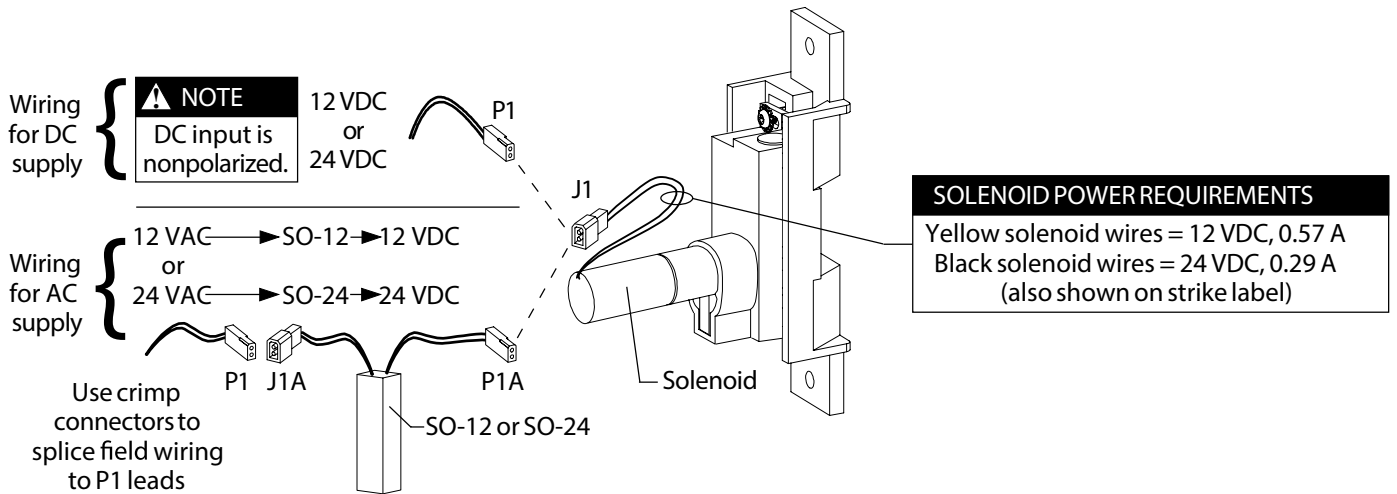
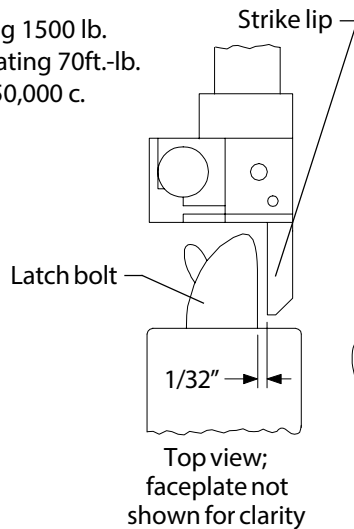

Figure 1
Figure 2
3. Wire strike (Figure 1).
4. Test strike: Apply solenoid power. Fail secure (FSE) lip unlocks. Fail safe (FS) lip locks.
5. Install strike with two #12-24 screws. Make sure clearance between latch bolt and strike lip is 1/32" (Figure 2). If not, uninstall strike, adjust (Figure 3), and reinstall.